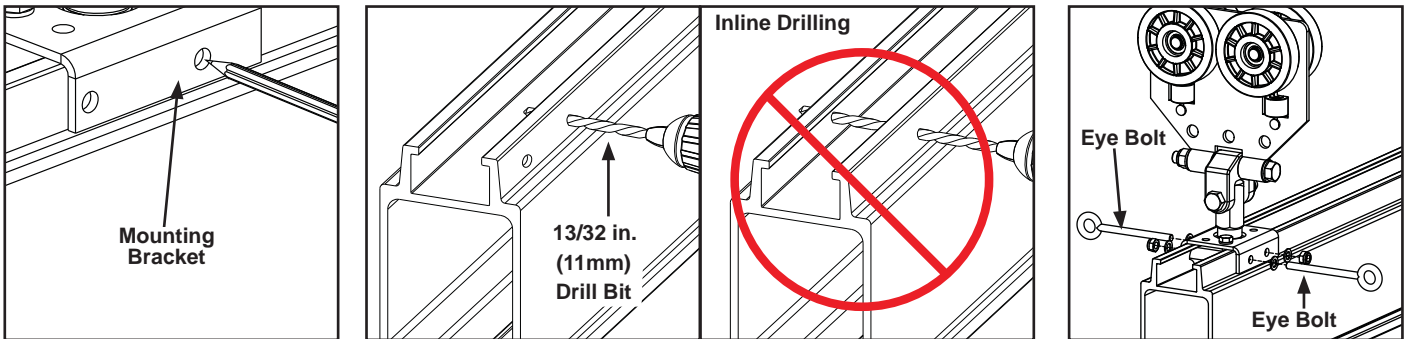

Figure 3-152
- Step 1. Use rail mounting bracket as template to mark rail. See Figure 3-152.
- Step 2. Drill two (2) holes using 13/32 in (11 mm) drill bit. Do not attempt to drill holes in-line. See Figure 3-152.
- Step 3. Install two (2) 3/8" x 4 1/2" Eye Bolts (alternating sides), (4) flat washers and (2) M10 nylock nuts. **Tighten until snug.**